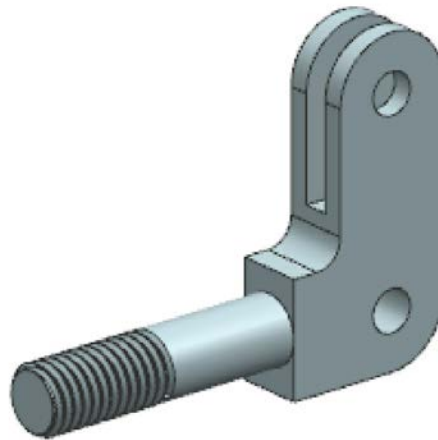

Figure 7-108 Final model of the Joint
- Finally, create threads on the cylindrical join feature by using the **Thread** tool, refer to Figure 7-108.
5. Accept the other default values of thread parameters, which are displayed in various edit boxes of the **Thread** dialog box, and then choose the **OK** button; threads are created and the dialog box is closed. The final model of the Joint is shown in Figure 7-108.